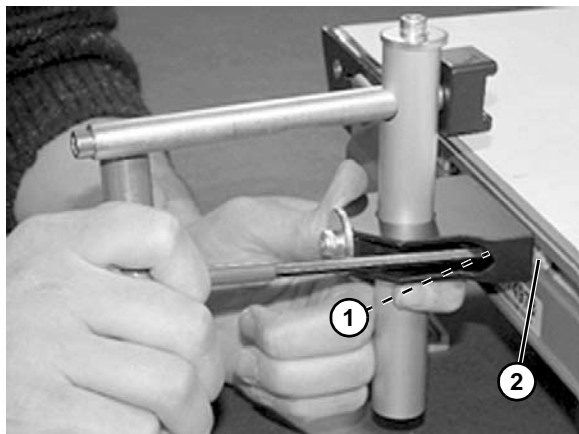

Figure 78
2. Tighten screws (**Figure 78, item 1**) making sure T-nut (**Figure 78, item 2**) rotates and engages inside of the T-slot.